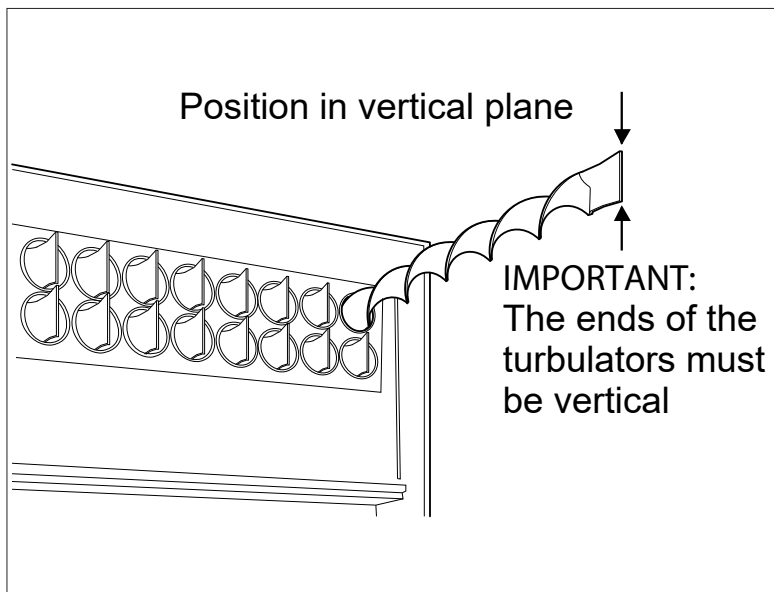

Figure 11-3: Turbulators
8. Pull out the spiral turbulators from the heat exchanger tubes. See Figure 11-3. Clean the turbulators using a stiff brush.